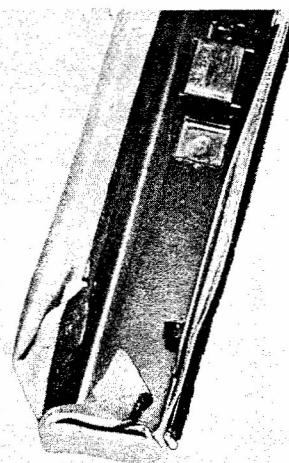
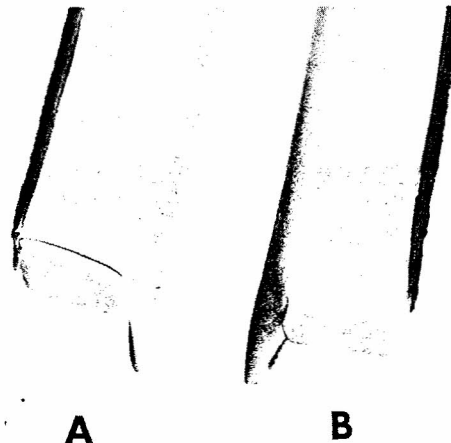

FIG. 3
FIG. 4
3. Fold the vinyl trim around and back of the forward end metal piece on the retainer, cementing it in place, and bend the end piece back to its original position. Note: Only one layer of vinyl now remains between the seal and retainer. Press the seal clip through the hole in the trim retainer, Fig. 3. In Fig. 4, "A" is the top view showing the original method of folding the trim on the panel and "B" the new suggested method.